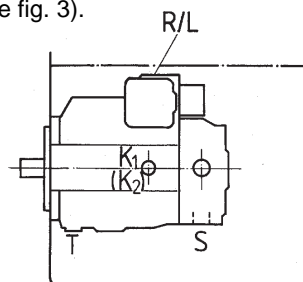

Fig. 3
a) When the minimum fluid level is the same as or lies above the upper edge of the pump then: drain port and port »S« are open (see fig. 3).